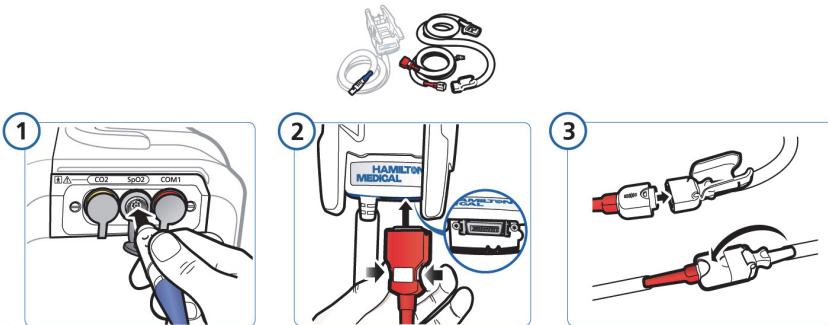

Figure J-11. Connecting the cables
- Connect the cables (Figure J-11)